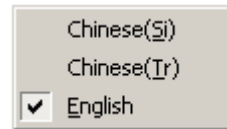

Fig 3-14: Choose among Chinese Simplified (Si), Chinese Traditional (Tr) and English.
- ← **Print Preview** - Show three options: Bus/Signal & Bus & Filter columns, Waveform Display Area, and Position Display Area (See Fig. 3-14).